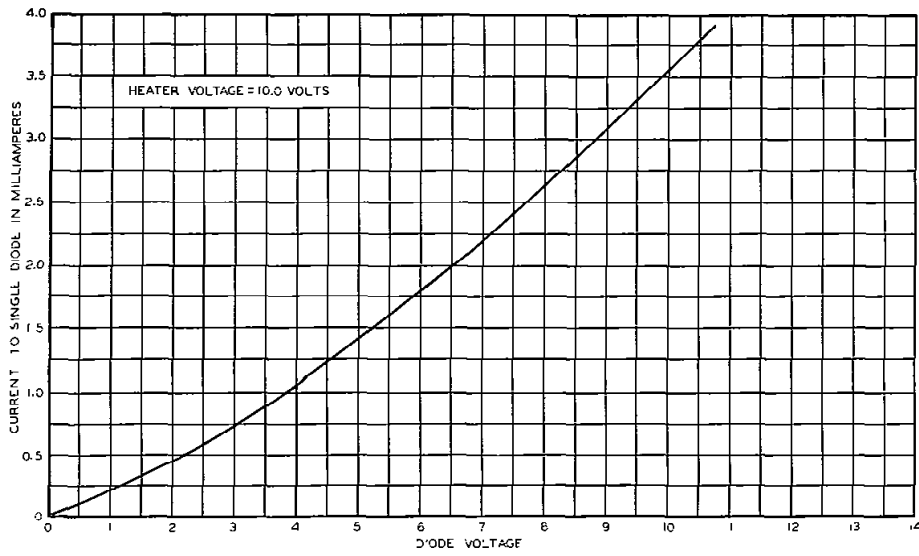
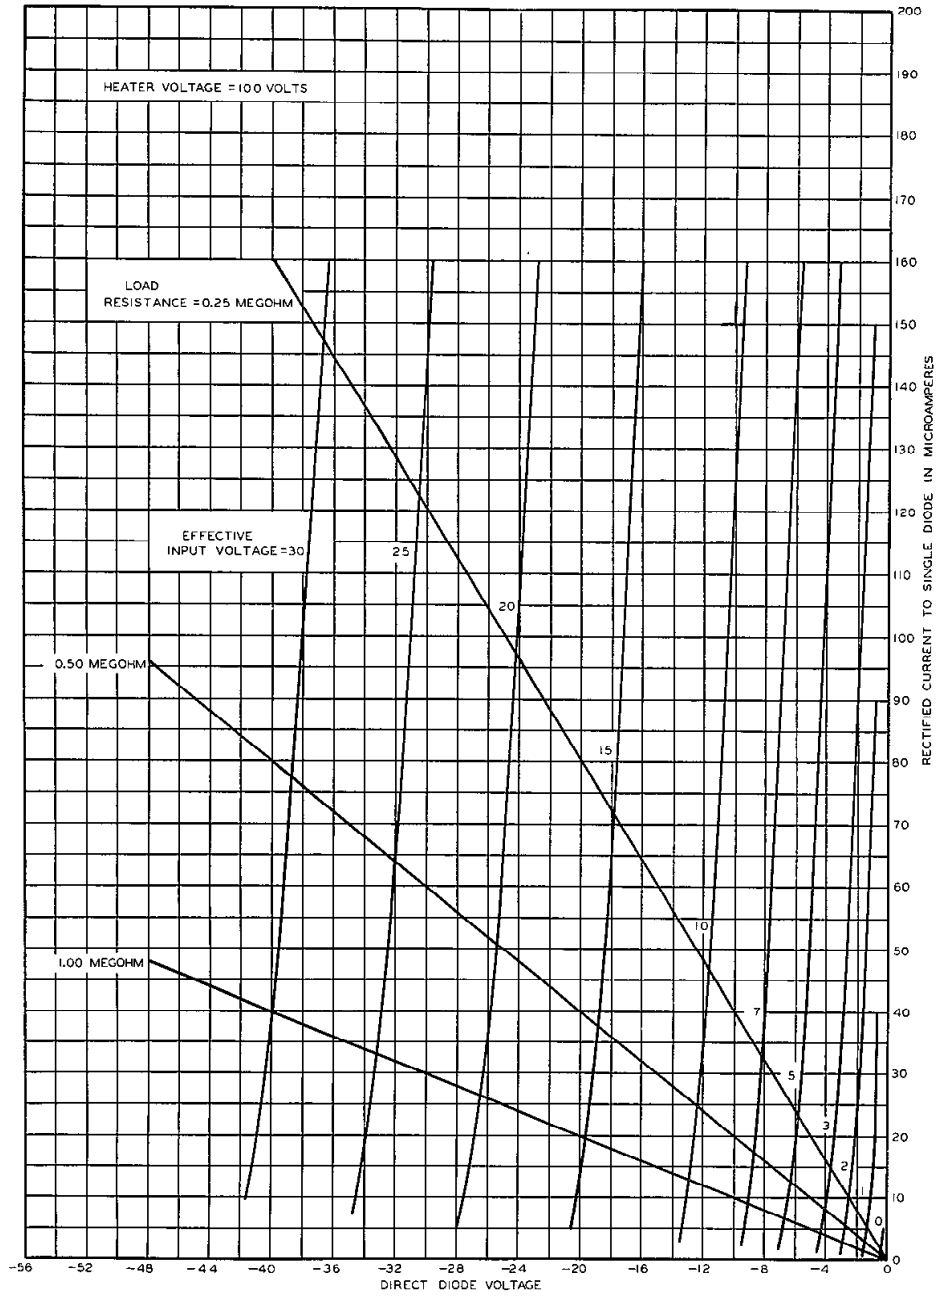

FIG. 8
FIG. 9
**Diode Characteristics**—The current-voltage characteristic of a single diode is shown in Figure 8. Rectification characteristics for a single diode are shown in Figure 9 for a number of values of impressed alternating input voltage. Each of these characteristic curves gives the relation between the direct voltage impressed on the diode plate and the average diode current as indicated by a direct-current microammeter for a constant impressed alternating input voltage of the value specified. Where the diode is used as a detector with the usual condenser-resistance circuit, the direct component of the voltage developed across the resistance by any alternating-voltage input is given by the intercept of the load line with the rectification characteristic corresponding to the input voltage. Load lines for zero fixed bias are shown in Figure 9 for load resistance values of 0.25, 0.5 and 1.0 megohm.